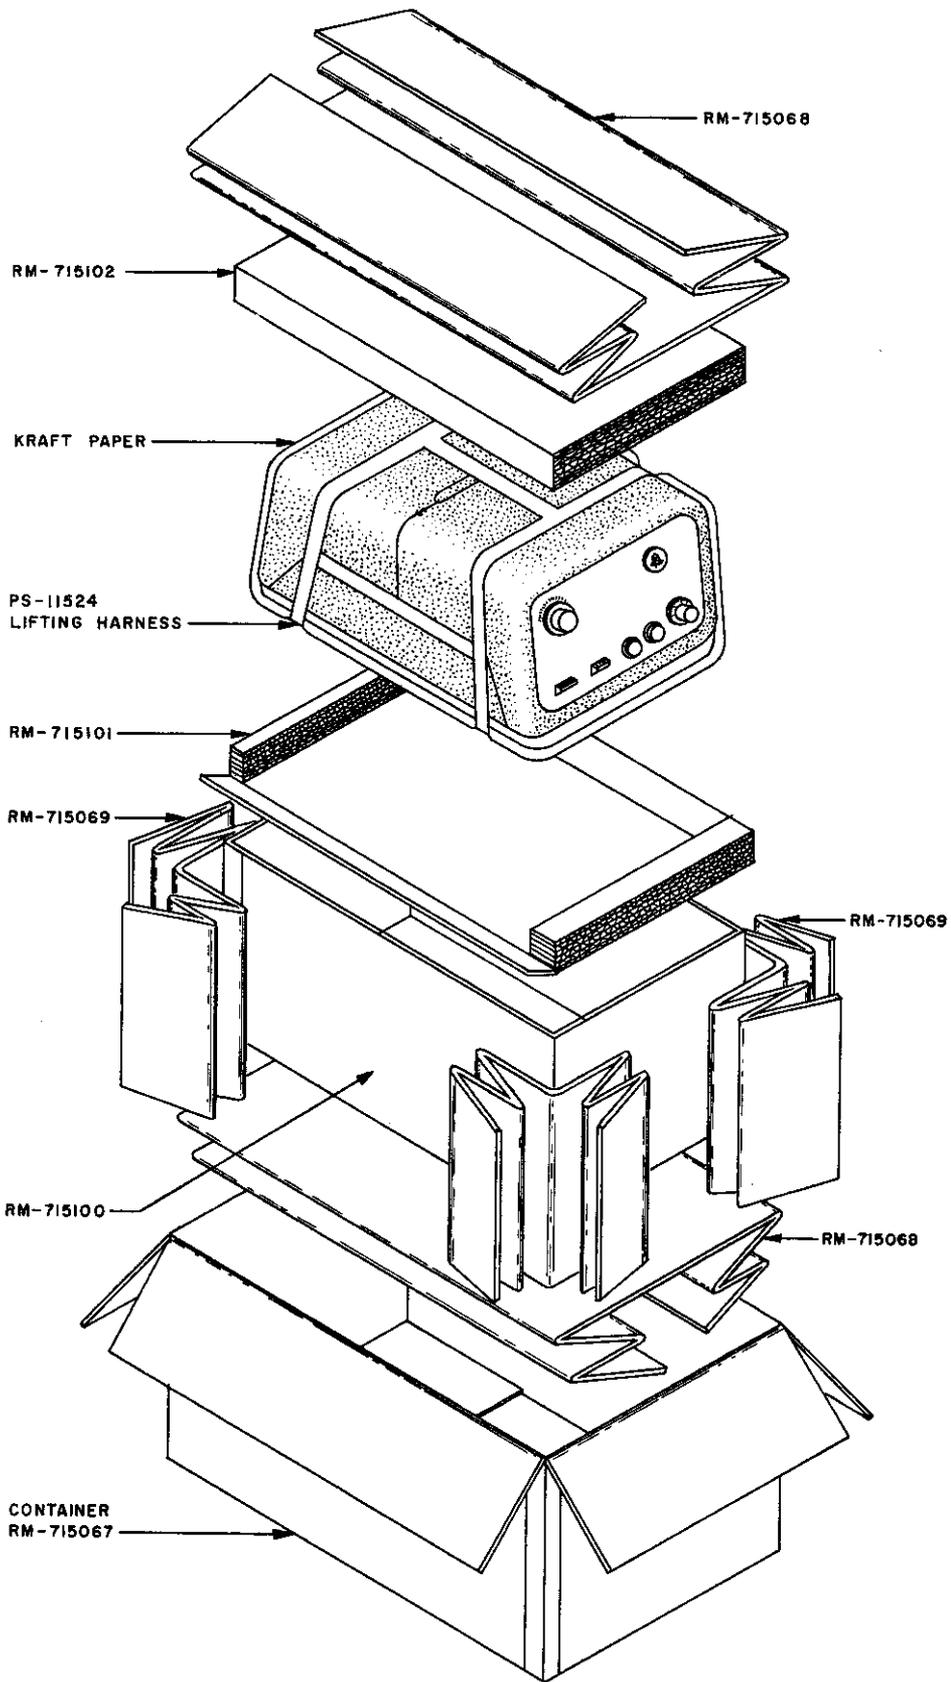

Fig. 3 - Packing Container
- Place answering set in the approved cardboard container (Fig. 3).